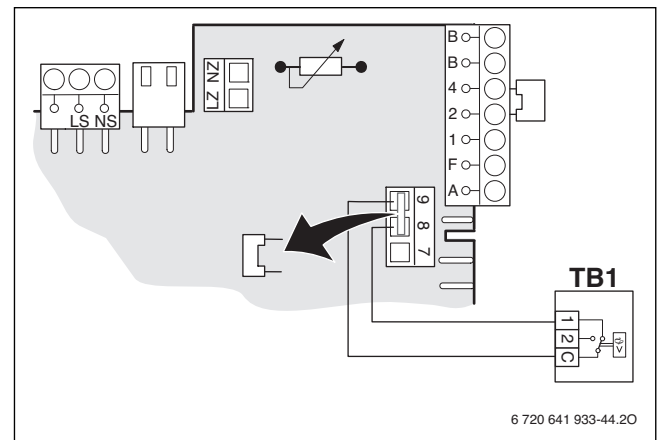

Fig. 49 Electrical wiring TB1
- Connect the leads labeled SWITCH CONTACT (yellow) to the TB1 temperature guard (→ Fig 49, page 47) on the Heatronic.